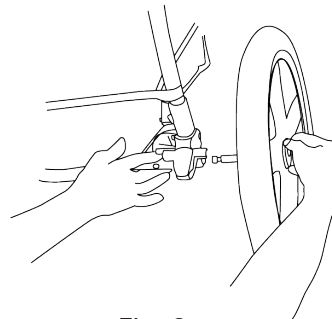

Fig. 2
5. To attach the rear wheels, lay stroller on its side. Align back wheel axle to the stroller's rear wheel axle housing (Fig. 2). Push the back wheel axle inward until you hear a "click" (Fig. 2A). Once in a fully locked position, check to make sure back wheel is in a fully locked position by pulling outward. Repeat steps for other side back wheel. NEVER use stroller if any wheels are not in a fully locked position. Please contact our customer service department immediately at (646)-435-8726 for assistance.